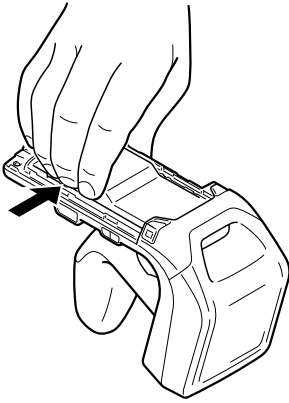

Figure 13 – Press in on the Battery
1. Press in on the battery (Figure 13).